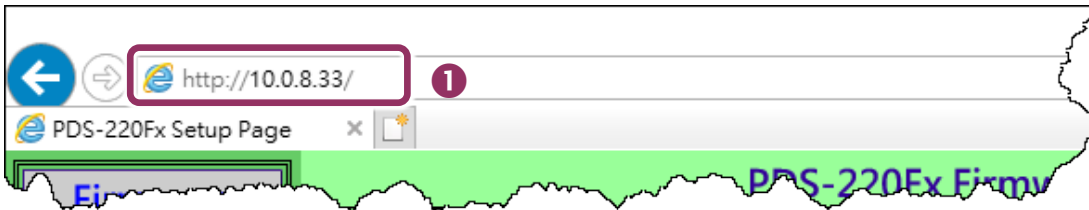

Figure 6-1-1
1. Enter the URL address of the PDS-220Fx in the address bar of the browser to log in to the web configuration pages. (refer to Figure 6-1-1)